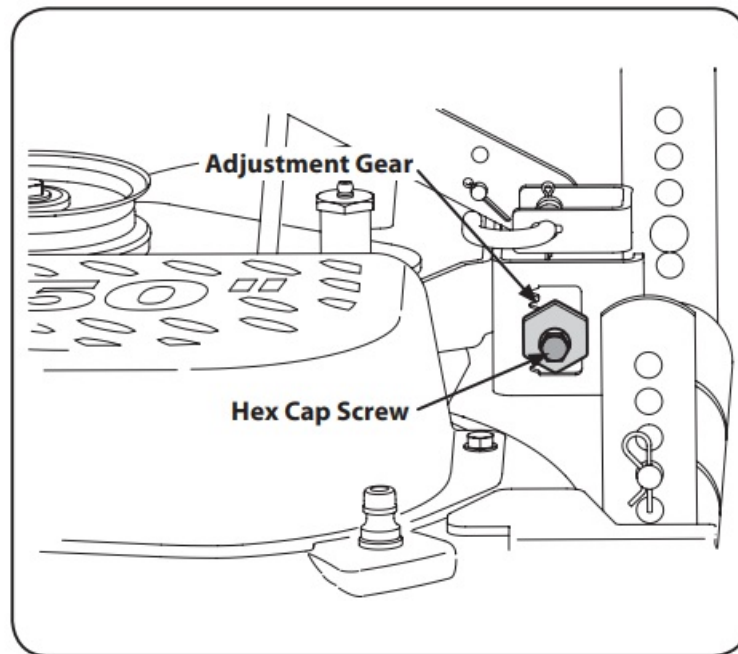

Figure 6-5
4. Working from the left side of the tractor, loosen, but do not remove, the hex cap screw in the left deck adjustment bracket. See Fig. 6-5.
5. To even the deck turn the adjustment gear, located immediately behind the hex cap screw, clockwise (rearward) to lower the left side of the deck. Turn the gear counter-clockwise (toward front) to raise the left side of the deck. See Fig. 6-5.